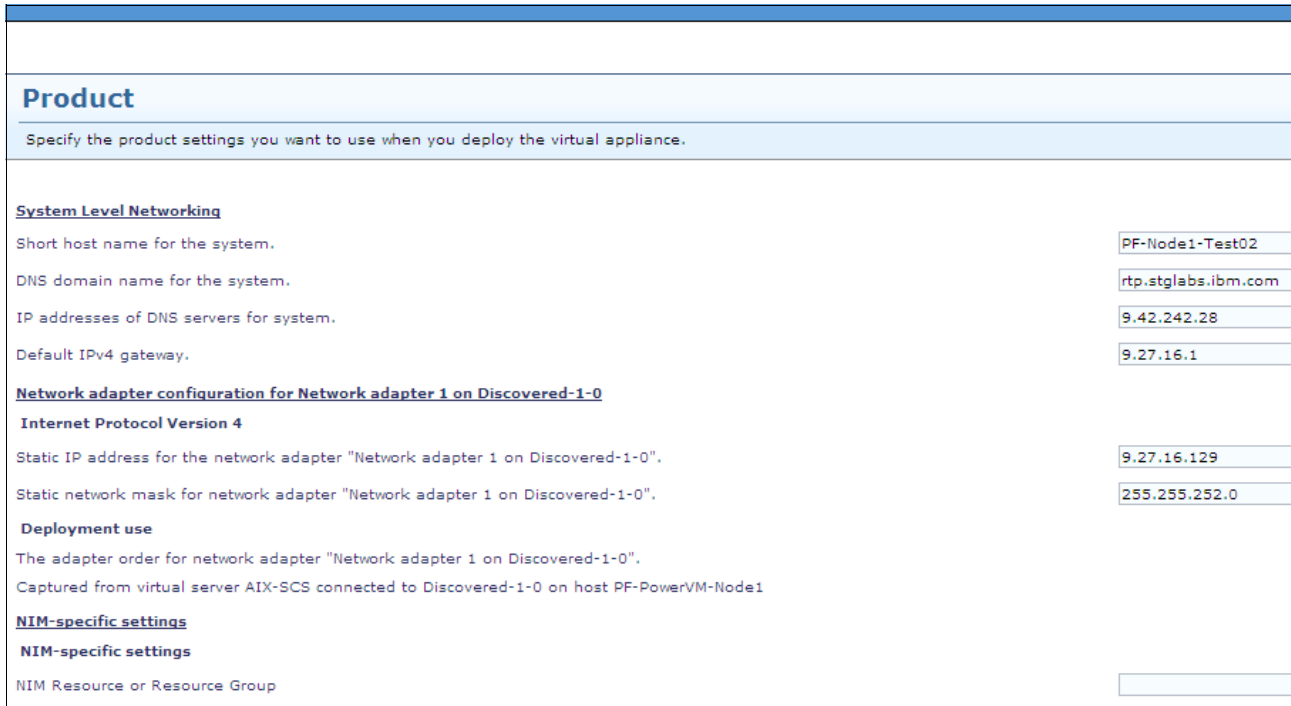

Figure 10-147 IP address configuration window
7. Enter the IP address and the Domain Name System (DNS) information as shown in Figure 10-147.